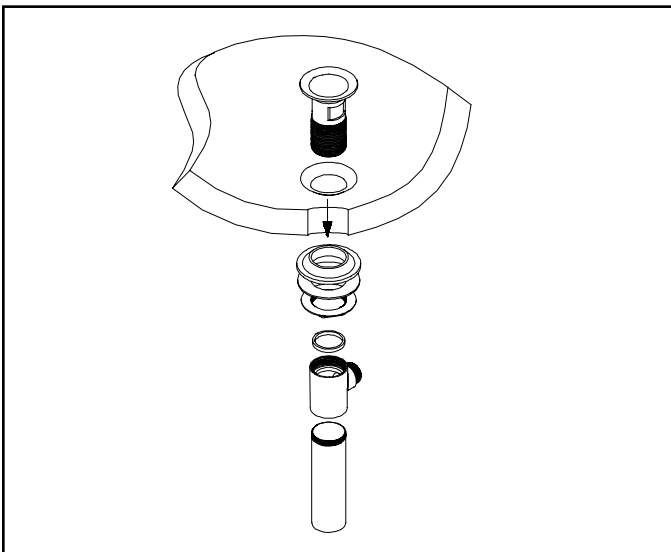

Figure 4
6. Remove drain plug from flange. Place flange & white washer through sink drain opening. (Clear silicone may be used in place of white washer.) From bottom side of sink, place cone shaped rubber washer onto flange & slide up against sink bottom. Note: Cone portion of washer to face upward. Next slide on clear flat washer and secure with flange nut. Place clear washer into drain body and tighten to flange. Apply thread sealant to tailpiece and attach to drain body. Attach tailpiece to p-trap drain (not included). See Fig. 4